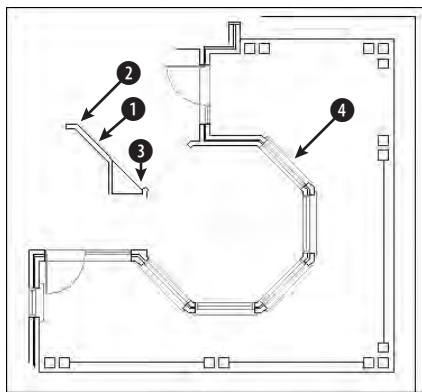

Figure 14-9: A house plan with an octagonal ceiling
2. Save the file as `ab14-02.dwg` in your `AutoCAD Bible` folder. This is part of a plan of a house with an unusual-shaped ceiling, as shown in Figure 14-9. OSNAP should be on. Set running object snaps to endpoint and intersection. If the Dimension toolbar doesn't appear, right-click any toolbar and check `Dimension`.
Select object to dimension: *Pick ❶ in Figure 14-9.*
Specify angle of dimension text: *Choose ❷ in Figure 14-9.*
Specify second point: *Choose ❸ in Figure 14-9.*
Select object to dimension: *Pick ❹ in Figure 14-9.*